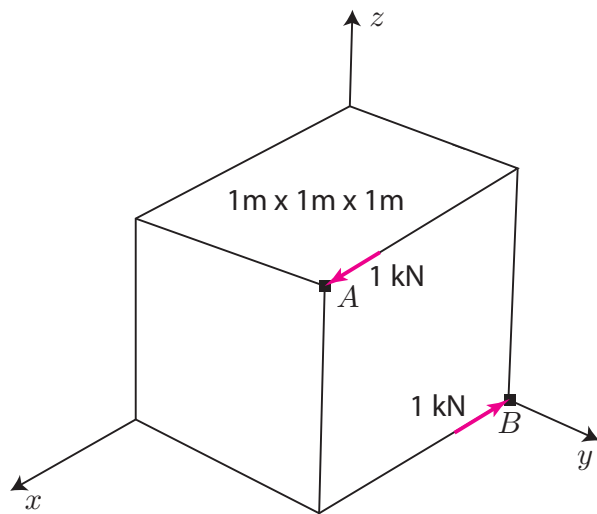

Figure 12: Problem 12.
12. The unit cube in Fig. 12 is subjected to a pair of 1 kN forces at A and B . Can this force system be replaced by a single point force? If so, at what point does it act? If not, why is that?